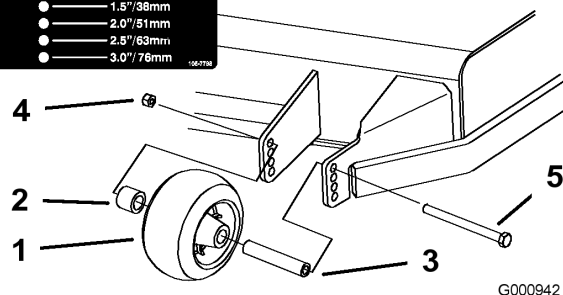
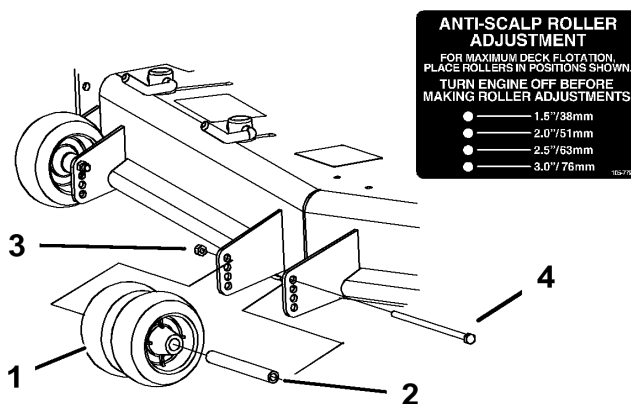
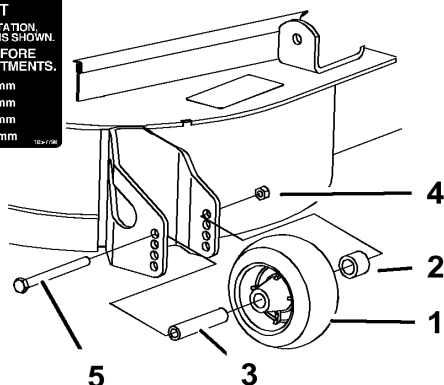

Figure 17
Figure 18
Figure 19
3. After adjusting the height-of-cut, adjust the rollers by removing the flange nut, bushing, spacer, and bolt (Figure 17 , Figure 18 and Figure 19).
Note: The two middle rollers will not have a spacer (Figure 18).
5. Install the flange nut bushing, spacer, and bolt. Torque to 40-45 ft-lb (54-61 N•m) (Figure 17 , Figure 18 and Figure 19).